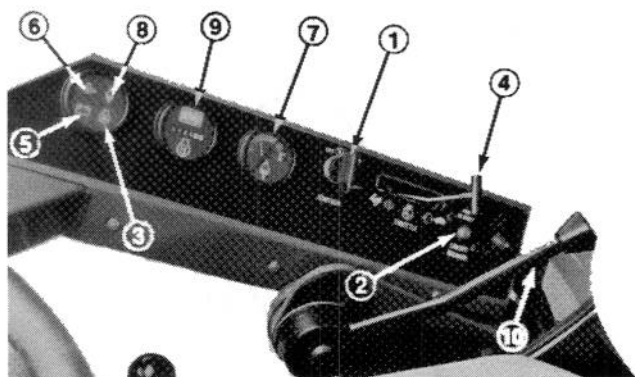

Figure 7
IGNITION KEY SWITCH (Fig. 7)
GLOW PLUG INDICATOR LIGHT (Fig. 7)
THROTTLE CONTROL (Fig. 7)
BATTERY CHARGING INDICATOR (Fig. 7)
ENGINE OIL PRESSURE INDICATOR (Fig. 7)
COOLANT TEMPERATURE GAUGE & INDICATOR (Fig. 7)
HOURLY METER (Fig. 7)
CIRCUIT BREAKER (Fig. 7)
5. Immediately turn the ignition key to START (Fig. 7). Release the key immediately when the engine starts and allow it to return to the ON position. Move the throttle control to SLOW.